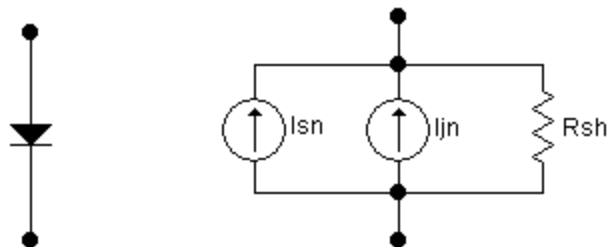

Figure 11. A diode noise model that shows Shot current noise with a Norton equivalent of Johnson noise.
3. A diode model using current noise sources (Norton equivalent for Johnson noise) is shown in Figure 11. The shot noise is a function of the applied bias current and is typically measured empirically. The shunt (channel) resistance, R_{sh} , must be known in order to calculate the Johnson noise (R_{sh} may be bias dependent).